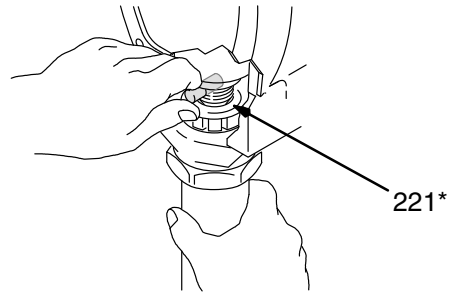

Fig. 37
2. Install the pin (221*). See Fig. 37.